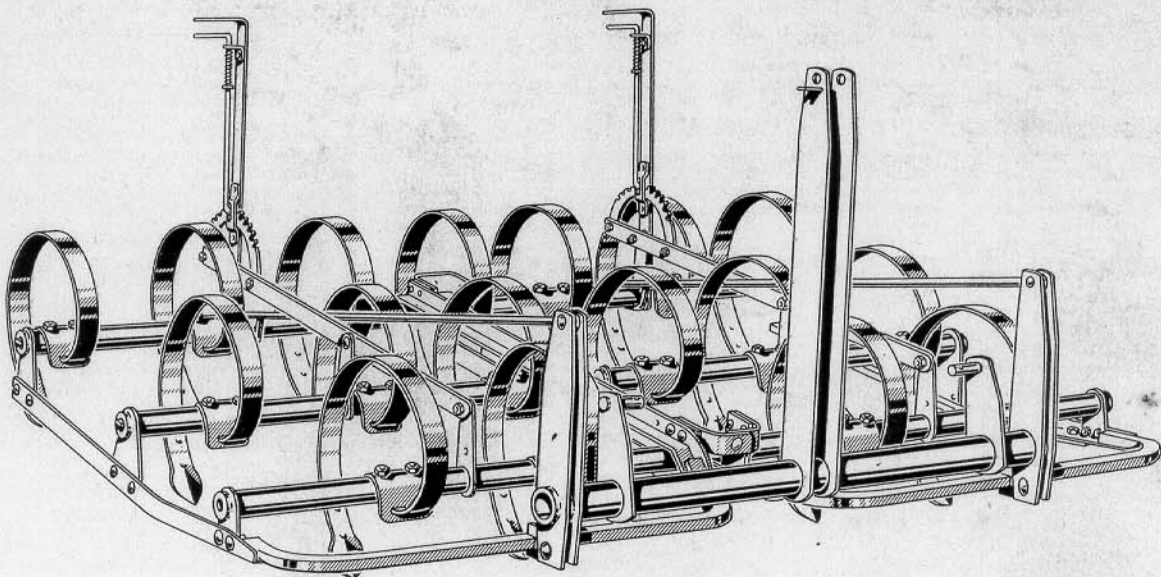

Fig. 7
3.	Drawbar assembly 1 piece Part No. 2K-BO-A-5300 (See Fig. 7).
(See Fig. 7)
Fig. 7 shows the two section K-BO-A-21 completely assembled.